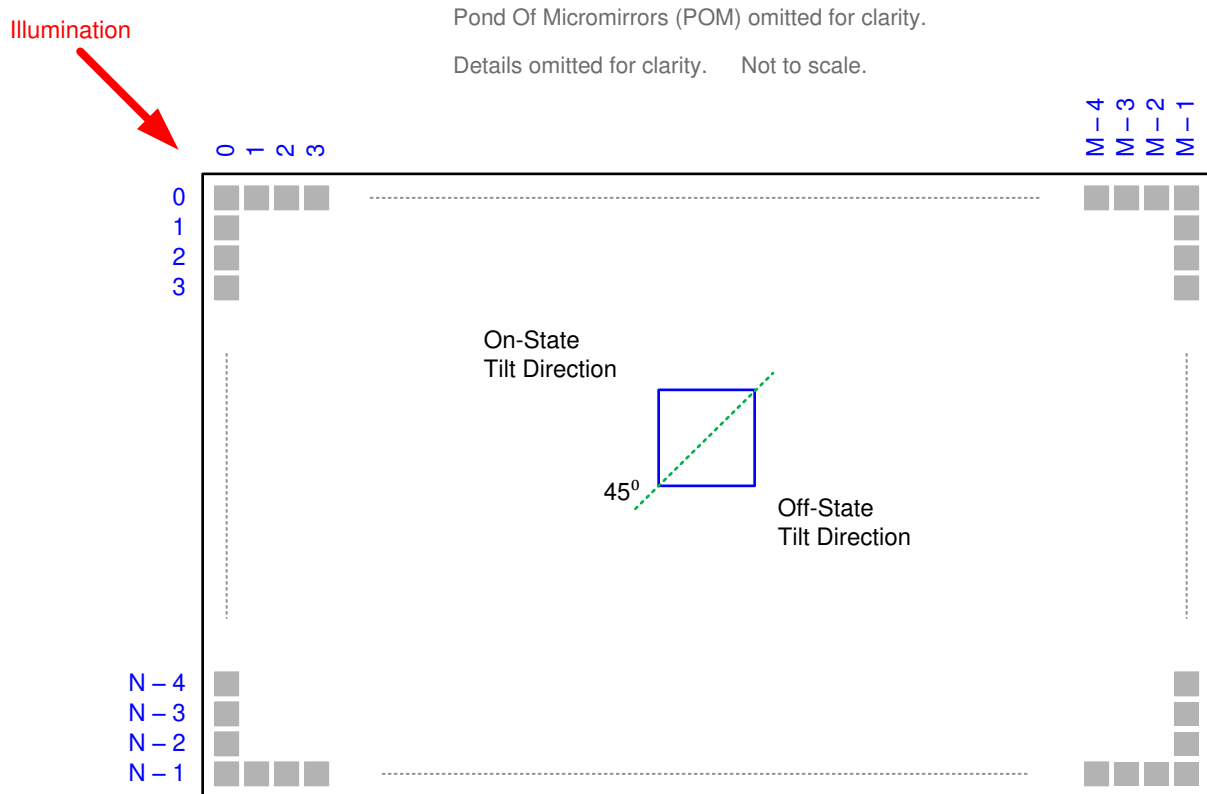

Figure 6-9. Micromirror Landed Orientation and Tilt
- (1) Measured relative to the plane formed by the overall micromirror array
- (2) Variation can occur between any two individual micromirrors located on the same device or located on different devices.
- (3) Additional variation exists between the micromirror array and the package datums. See the package drawing.
- (4) See Figure 6-9.
- (5) An out-of-specification micromirror is defined as a micromirror that is unable to transition between the two landed states.